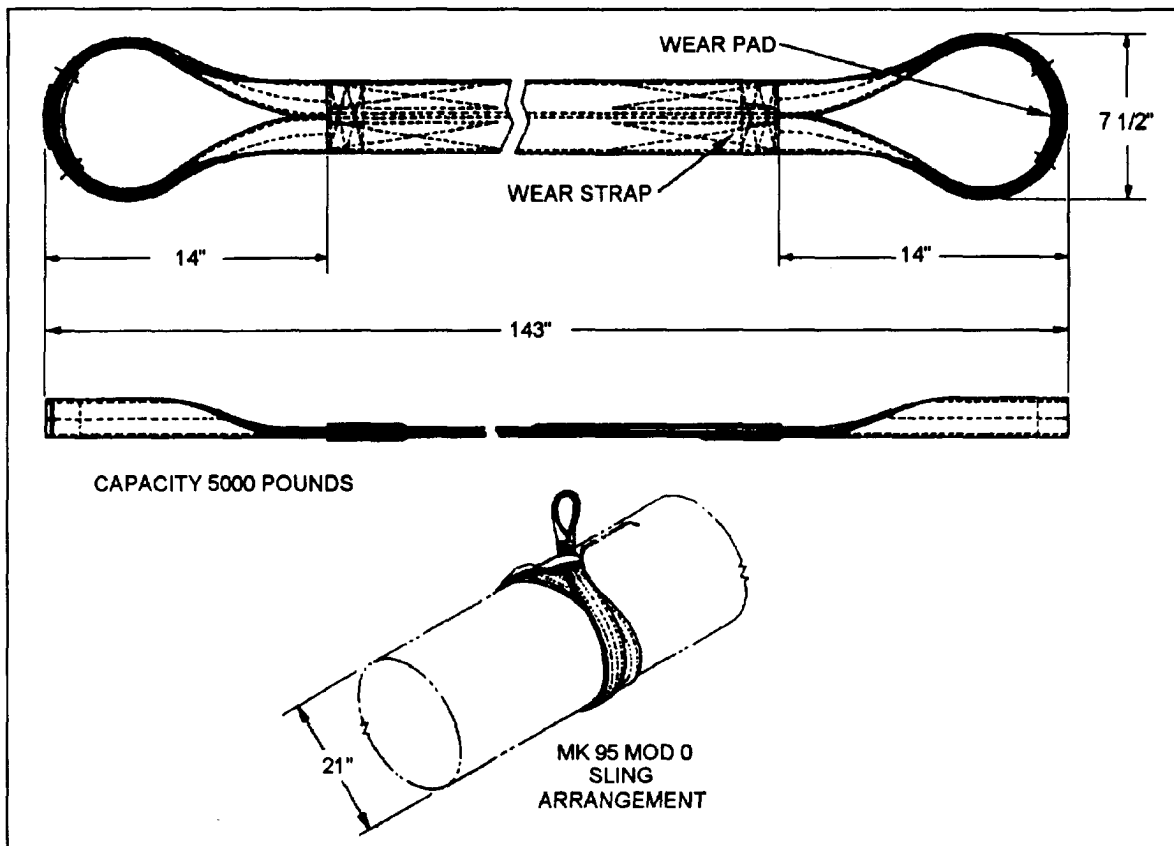

Figure 2-5.—Mk 95 Mod 0 torpedo sling.
**MK 95 MOD 0 TORPEDO SLING.**— Although its nomenclature indicates it is used with torpedoes, this sling is also used with other cylindrically shaped weapons that are 21 inches in diameter and within its rated lifting capacity of 5,000 pounds. Fabricated of nylon webbing with a loop that is reinforced with a leather pad at each end, the sling is used for loading the Mk 67 mine aboard submarines. As shown in figure 2-5, the sling is wound twice around the mine with one loop inserted through the other to form a double-wrap choker hitch. The loops are reinforced with leather wear pads, and both sides of the body have nylon wear straps so that either side may bear directly against the mine without chafing.